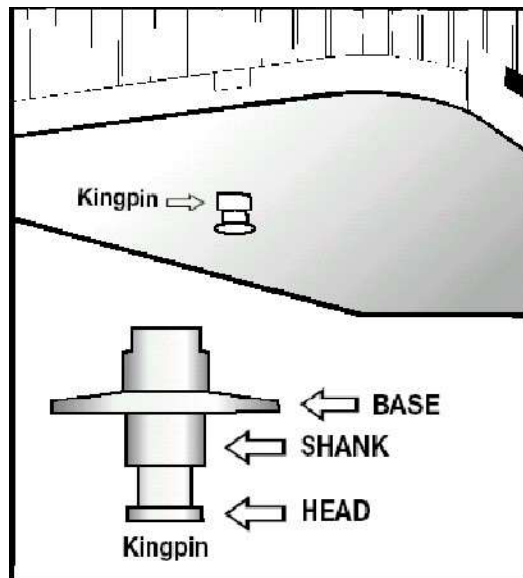

Figure 6.8
- Locking jaws around the shank, not the head of kingpin. **See Figure 6.8.** - Release arm properly seated and safety latch/lock engaged.